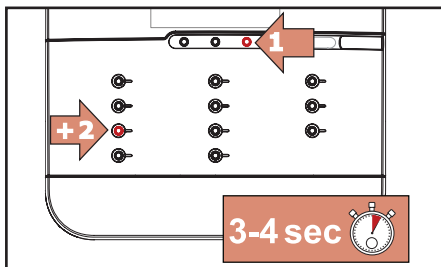

Fig. 5.4 - Enter cleaning mode
1. Press first **STOP** and then  and hold them pressed simultaneously for 3-4 seconds to enter the cleaning mode (fig. 5.4).